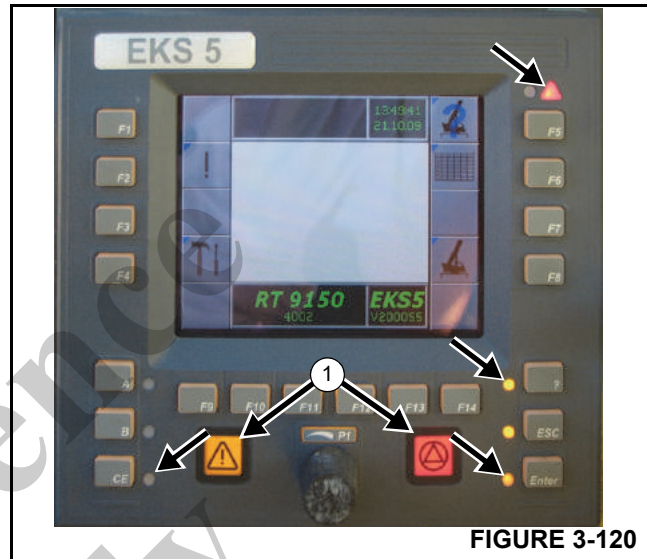

FIGURE 3-120
- Check that the lamps indicated in Figure 3-120 light up briefly after turning on the ignition.